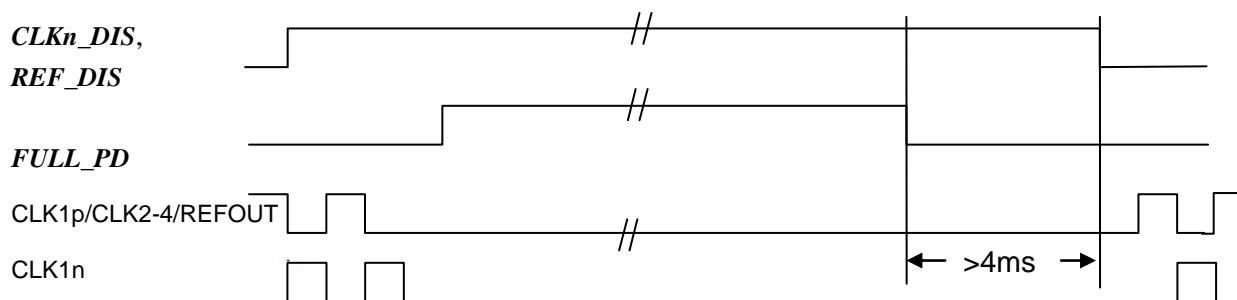

Figure.6 Full Down sequence
(9) Time to settle output into 0.1% of specified frequency from **FULL_PD** is "L". Refer to Figure.6 on "Full Power Down sequence".